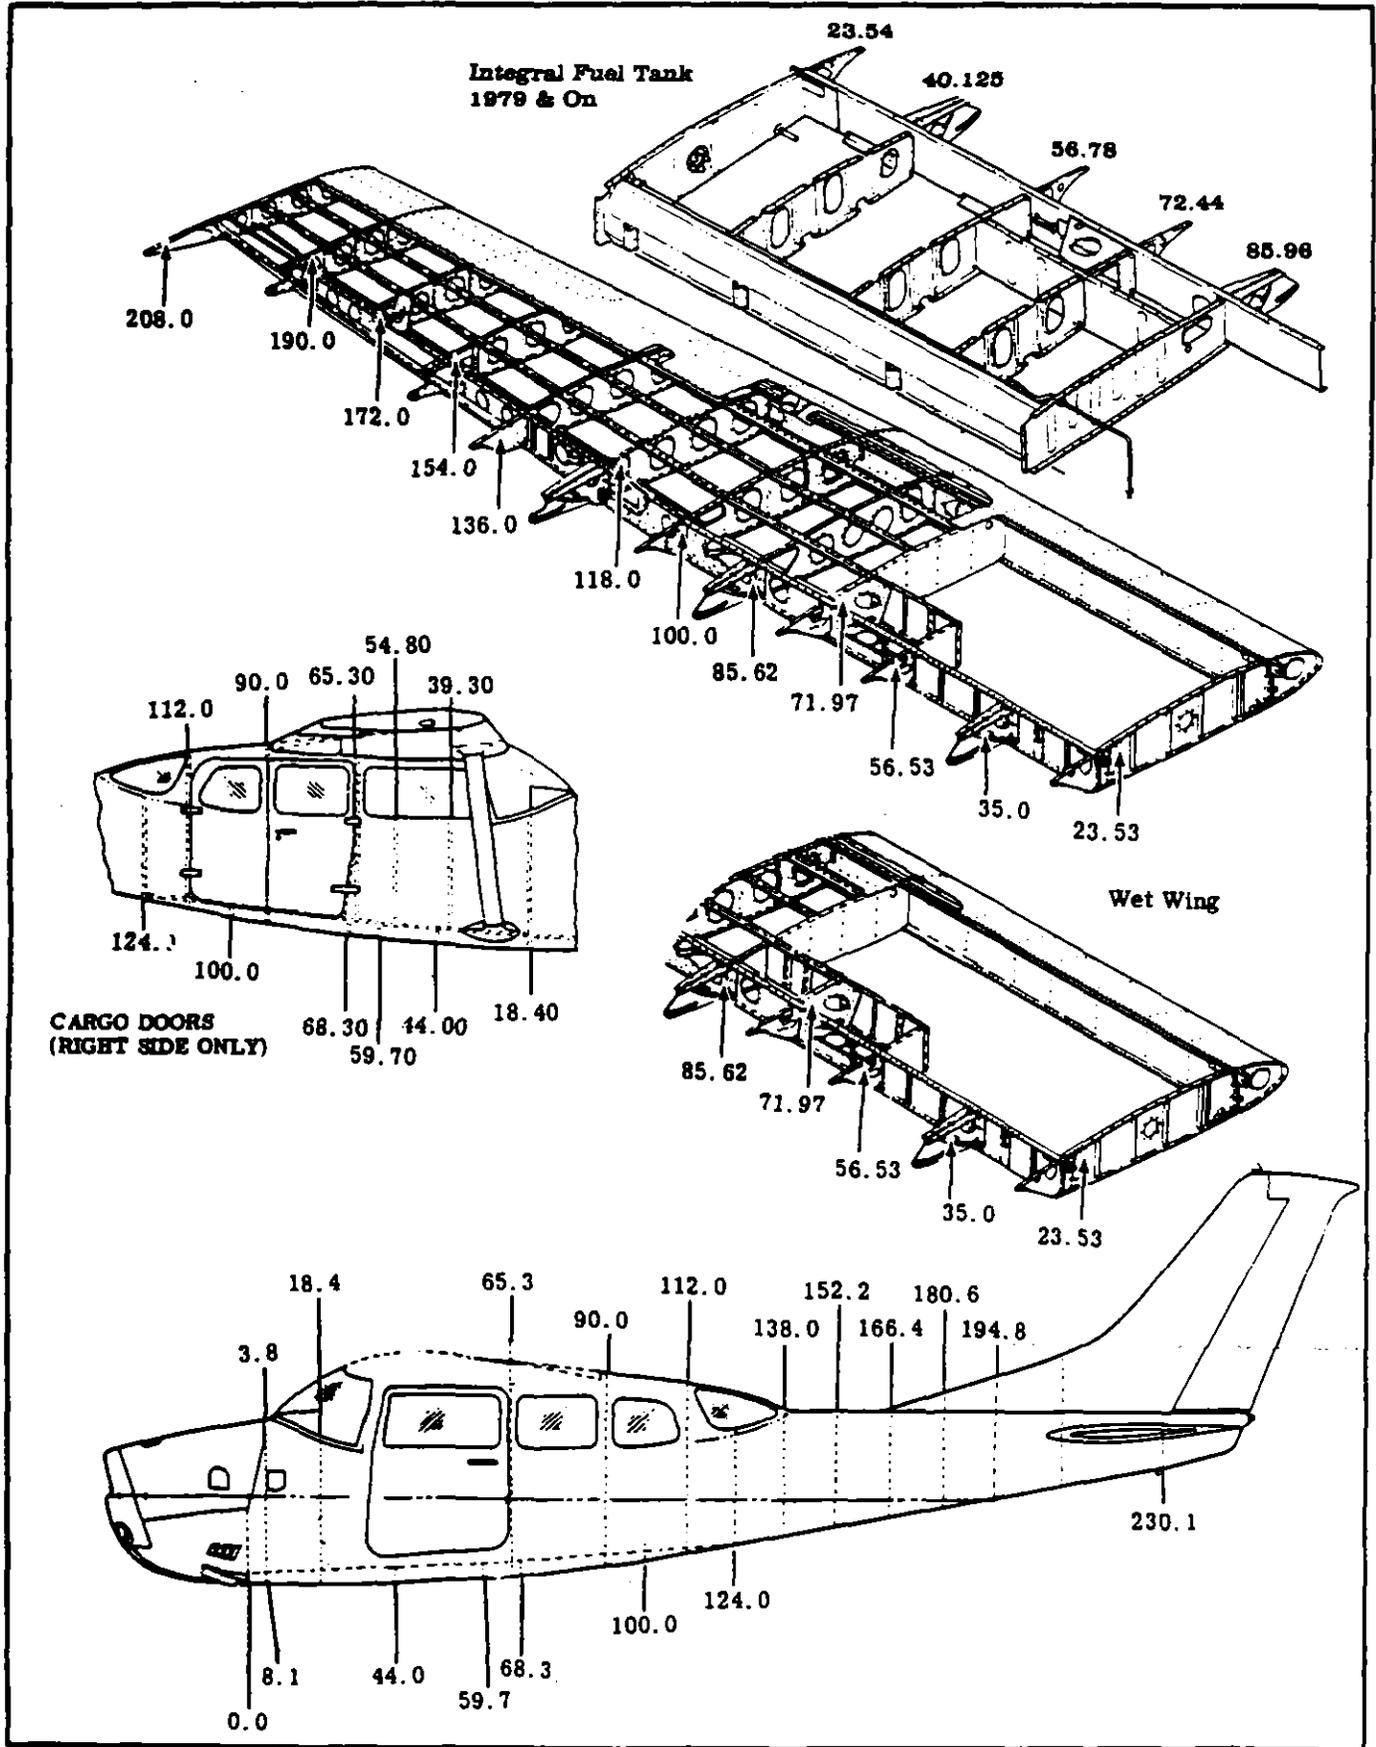

Figure 1-2. Wing and Fuselage Reference Stations
1-5. STATIONS. A station diagram is shown in figure 1-2 to assist in locating equipment when a written description is inadequate or impractical.
2. When using a torque wrench adapter which changes distance from torque wrench drive to adapter drive, the indicated reading must be adjusted for desired torque reading. (See Figure 1-2.)